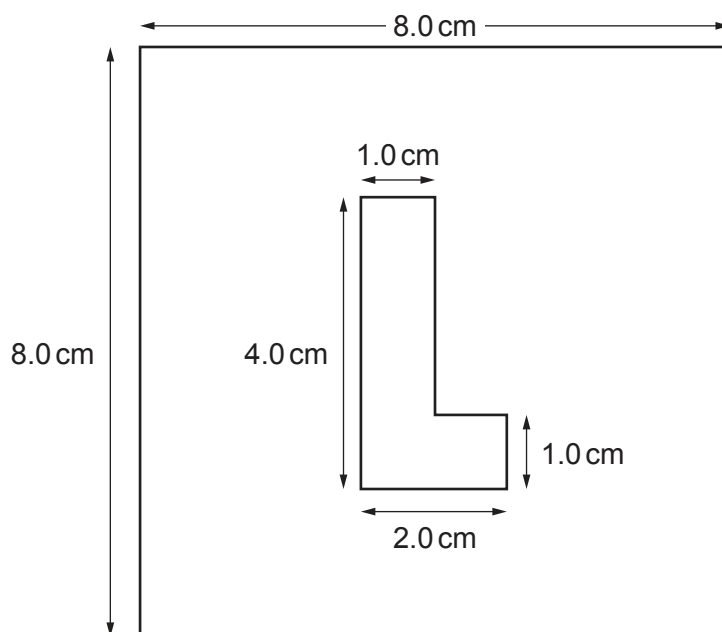

Fig. 3.2
- The illuminated object is made using a piece of card of size approximately 8.0 cm by 8.0 cm. An L shape is cut out from the centre of the card as shown in Fig. 3.2, with the dimensions shown.